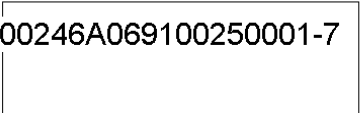

Fig 2. The ER-10 Echo-Box (Cavity Resonator)
1. connecting the ER-10 to the directional coupler (AP) by means of the long cable;
3. setting the two way switch "MGN-KLS" (Fig 2.) on position "MGN";